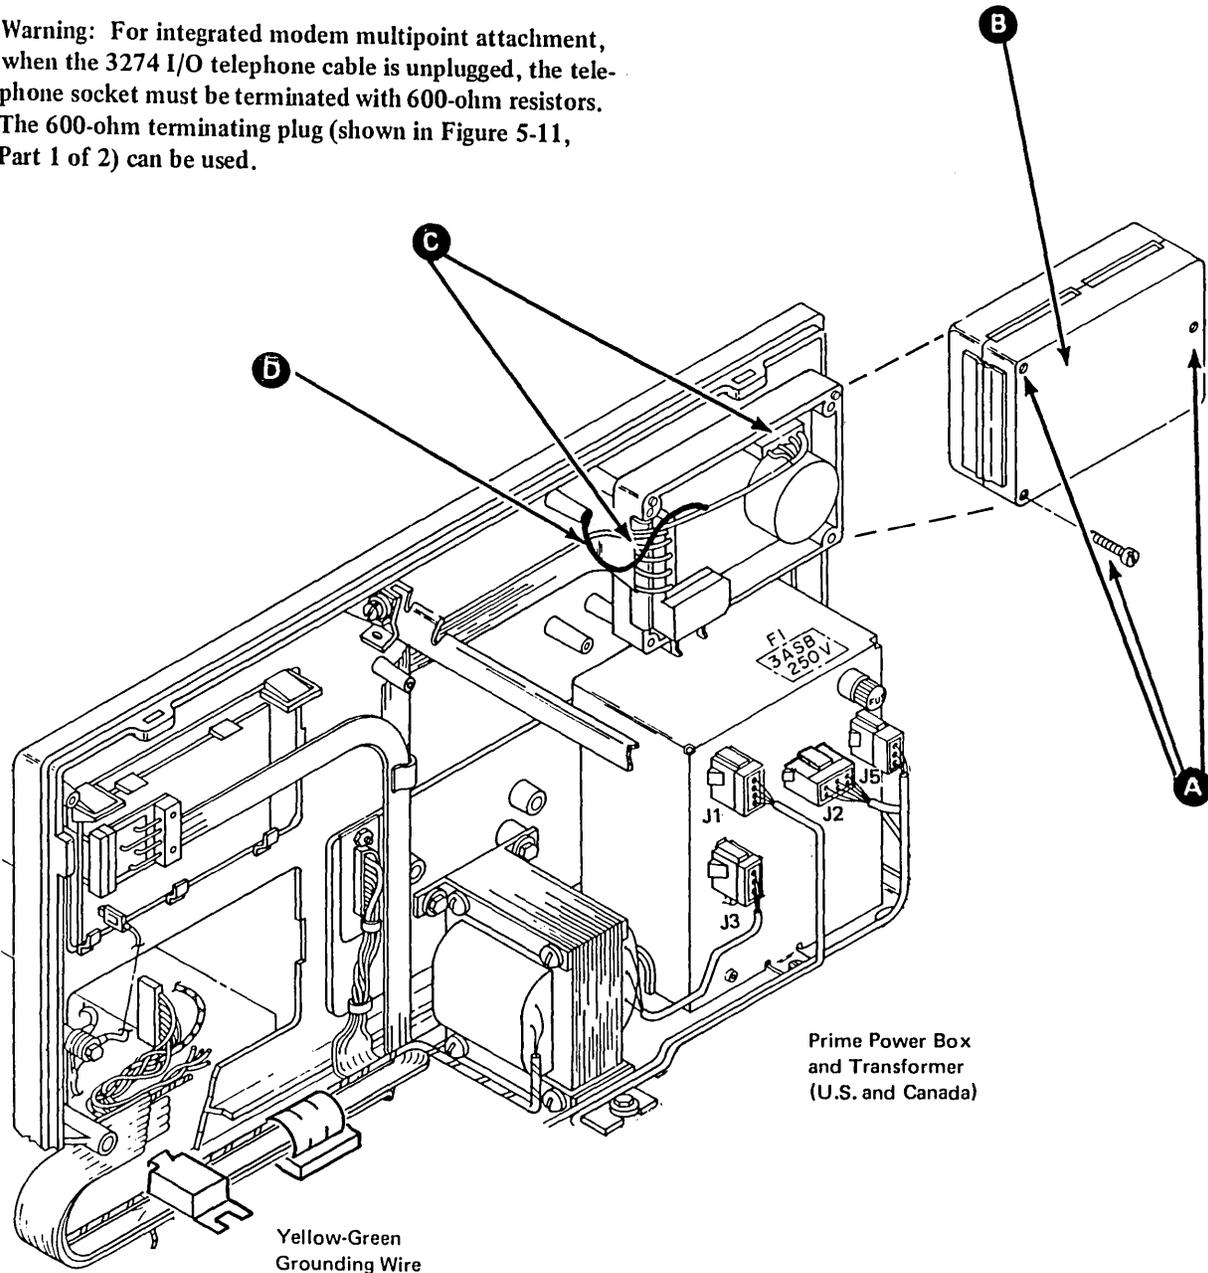

Figure 4-12. Line Plate Card (World Trade Countries)
4.13 Line Plate Card, Removal and Replacement (Figure 4-12)